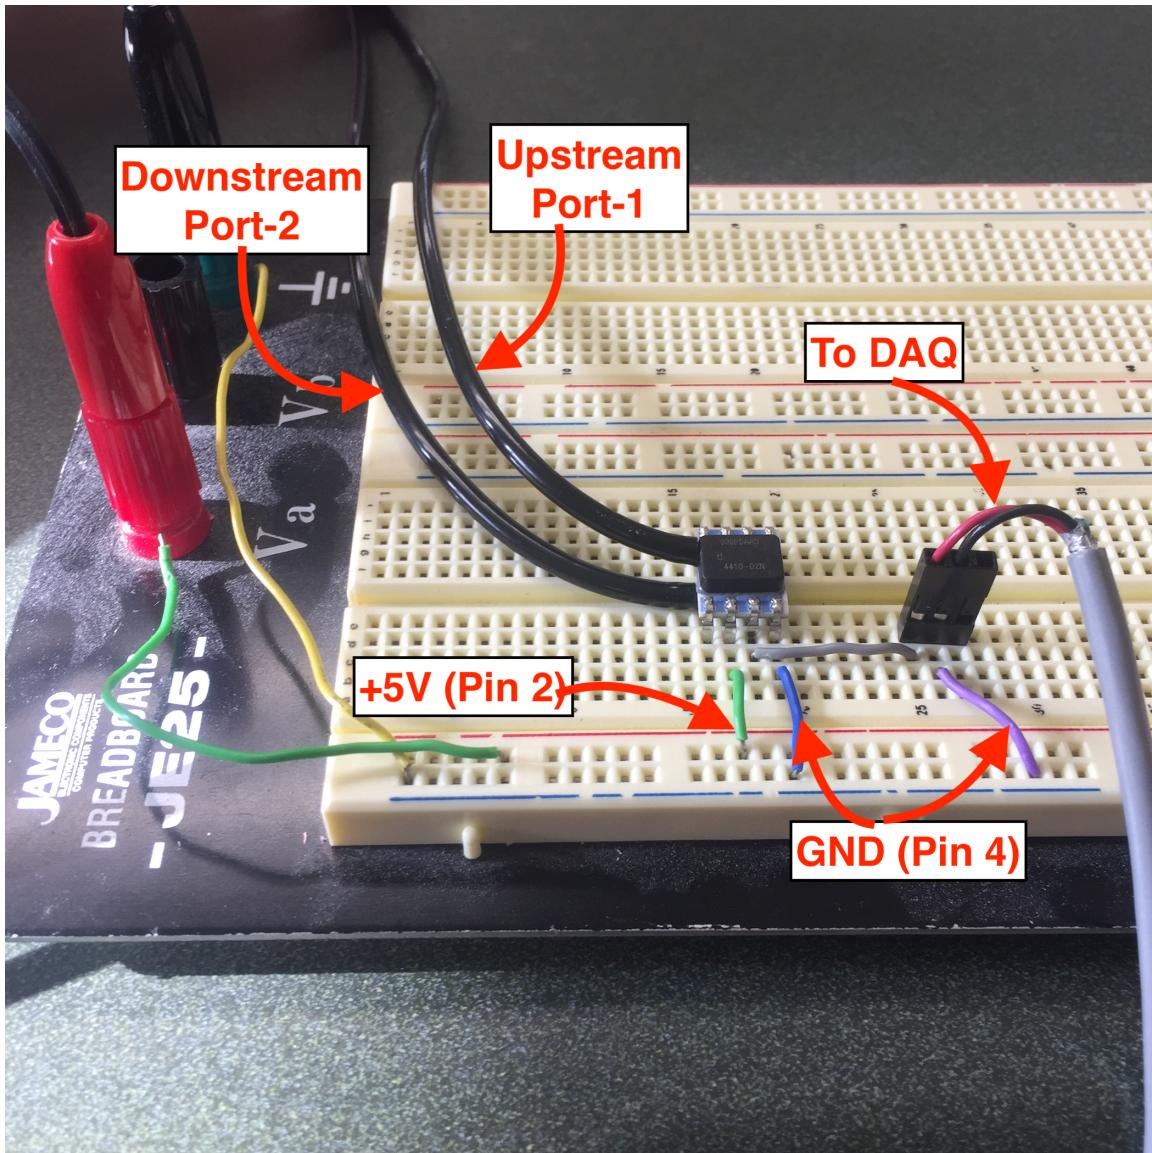

Figure 2: Sample connection for experiment 4.
In this lab, you will be using two Honeywell SSCDRRN030PDAA5 pressure sensors (see Figure 2) with analog output. These differential pressure sensors have a ± 30 psi range, require a 5V supply and are amplified and temperature compensated. For more information, see Honeywell pressure transducer SSCDRRN030PDAA5 webpage. A single apparatus will serve two stations; you will work with a group directly across from your station. Each station will have its own data acquisition but the flow apparatus, pressure sensors, and breadboard circuit will be shared and common. Please make sure to plan accordingly.
1. Place pressure sensors on the breadboard. A sample circuit for the components on a breadboard is shown in Figure 2.
2. Supply each pressure sensor with a 5V supply and ground wire. Reference Figure 2 for the proper pin-outs. **Do not turn on the power supply until confirming your circuit with the TAs.**